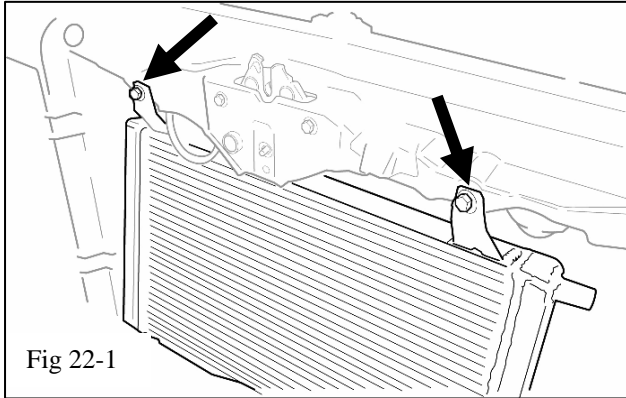

Fig 22-1
- (a) Set the intercooler low temperature radiator (LTR) in front of the A/C condenser. Align the upper mounting tabs with the horn mounting holes and temporarily install the horn mounting bolts a few turns (Fig 22-1). Leave these bolts loose for now. Notice that the inlet and outlet on the LTR are on the driver side of the vehicle.